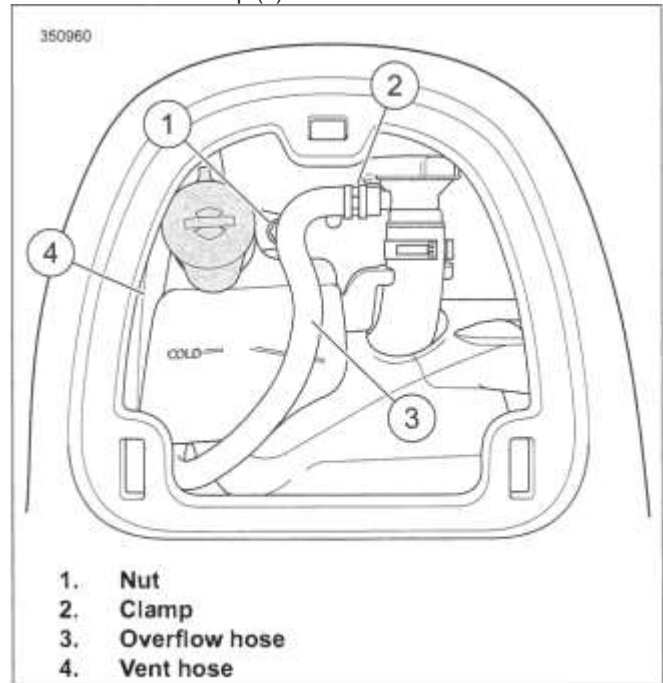

Figure 7-10. Remove Coolant Overflow Tank
1. See Figure 7-10. Disconnect coolant overflow hose.
- a. Detach clamp (2).
- b. Detach overflow hose (3).
- a. Remove nut (1).
- b. Pull coolant overflow tank out enough to access vent hose (4).
- c. Detach vent hose (4).
- f. Remove overflow hose (3), if necessary.
1. See Figure 7-10. Install overflow hose (3) on coolant